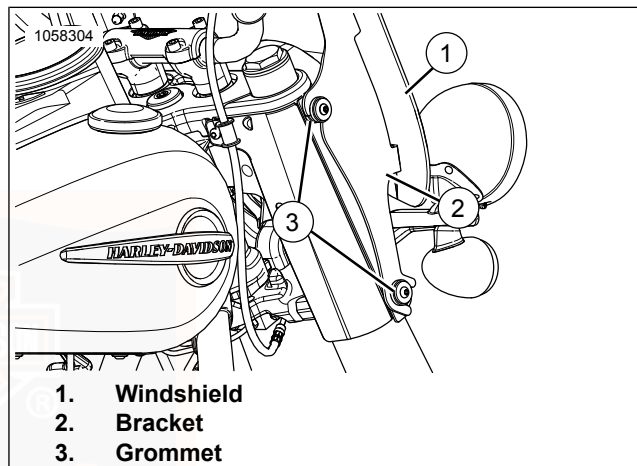

Figure 43. Windshield Assembly
1. See Figure 43. Move the TOP of the windshield assembly (1) forward, until the TOP bracket (2) notches slide away from the grommets (3).
- See Figure 43. Verify grommets (3) and brackets (2) are in place and in good condition.